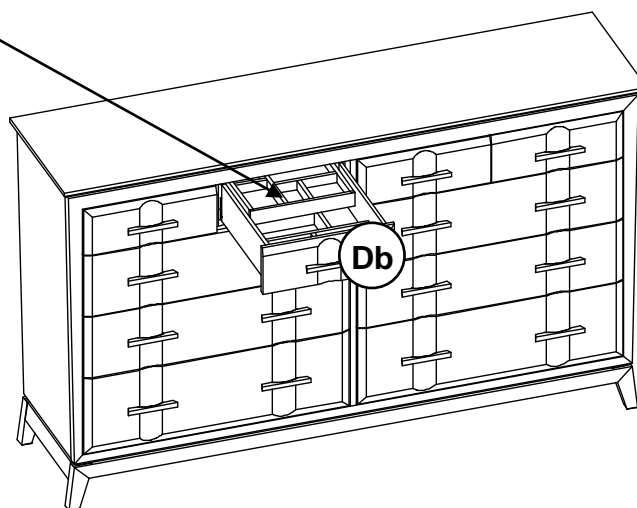

Fig. 2
2. The dresser includes jewelry storage in the top drawer Db. To access the lower jewelry storage area of this drawer slide upper section back into the case. See Figures 2 and 2a.